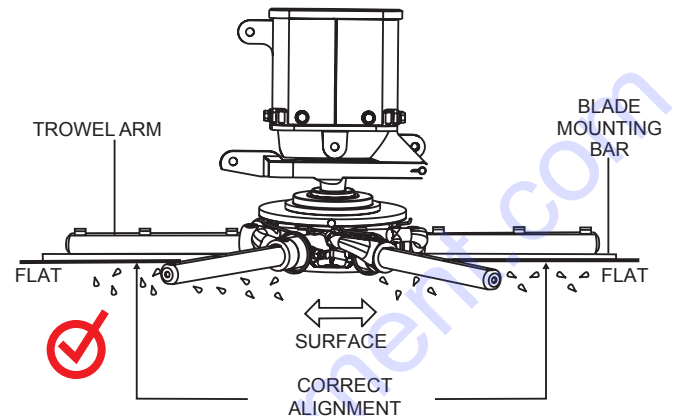

Figure 48. Correct Spider Plate Alignment
2. Pitch the blades as flat as possible. The adjustment bolts should all barely make contact with the lower wear plate on the spider. If one is not making contact (Figure 48), adjustment will be necessary.
Figure 48 illustrates the correct alignment for a spider plate (as shipped from the factory).